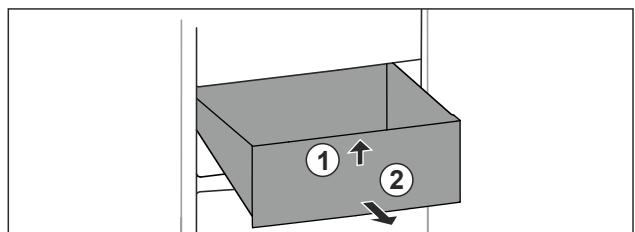

Fig. 83
- ▶ Lift up drawer at the front. Fig. 83 (1).
- ▶ Remove drawer to the front. Fig. 83 (2).